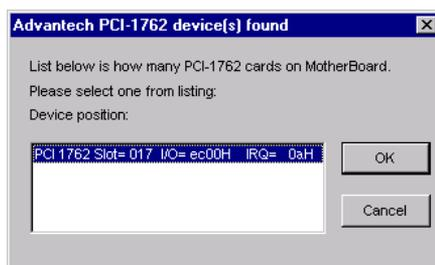
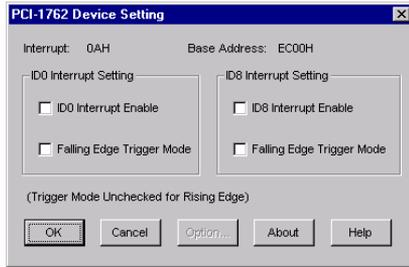

Figure 2-8: The “Device(s) Found” dialog box
Figure 2-9: The Device Setting dialog box
Step 3: Scroll down the *List of Devices* box to find the device that you wish to install, then click the **Add...** button to evoke the *Device(s) found* dialog box such as one shown in Fig. 2-8. The *Device(s) found* dialog box lists all the installed devices on your system. Select the device you want to configure from the list box and press the **OK** button. After you have clicked **OK**, you will see a *Device Setting* dialog box such as the one in Fig. 2-9.
Step 4: On the *Device Setting* dialog box (Fig. 2-9), you can configure the ID0/ID8 Interrupt trigger mode either as *Rising Edge* or *Falling Edge*, and *Enable* or *Disable* the ID0/ID8.